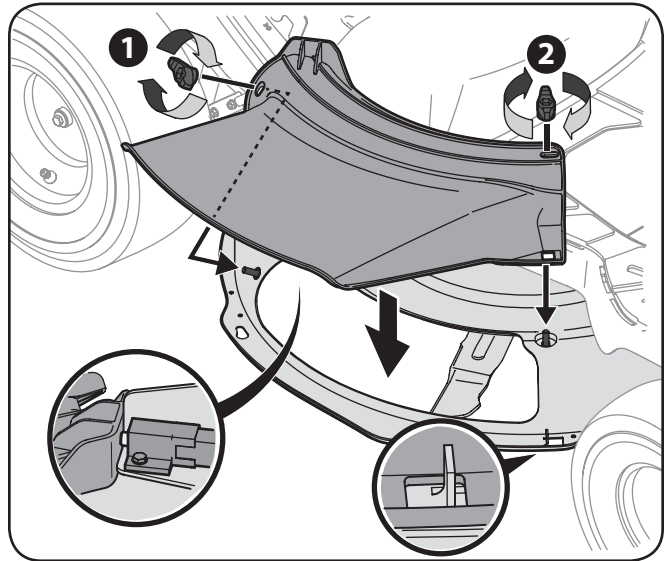

Figure 3-9
- Install the deck chute into the deck discharge opening on the deck. The studs on the deck surface will fit through the holes on the upper portion of the deck chute. The small tab on the deck lip area will fit through the square cutout on the lower portion of the deck chute. See Figure 3-9.
- Secure the deck chute by tightening the wing knobs removed earlier. See Figure 3-9.